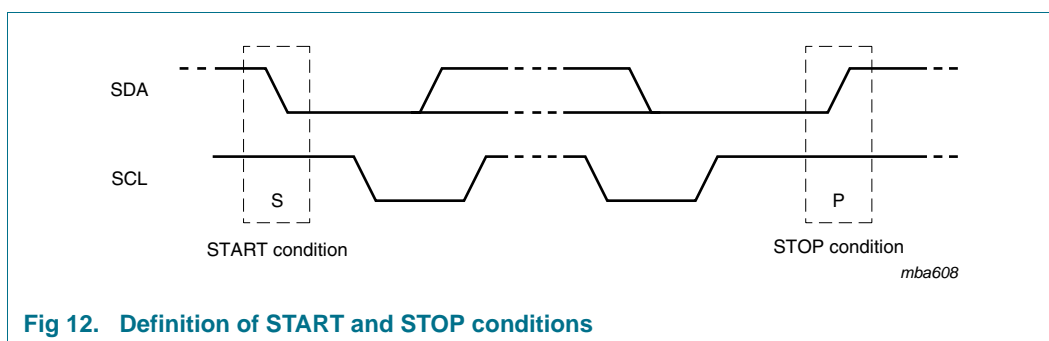

Fig 12. Definition of START and STOP conditions
Both data and clock lines remain HIGH when the bus is not busy. A HIGH-to-LOW transition of the data line while the clock is HIGH is defined as the START condition (S). A LOW-to-HIGH transition of the data line while the clock is HIGH is defined as the STOP condition (P) (see Figure 12.)